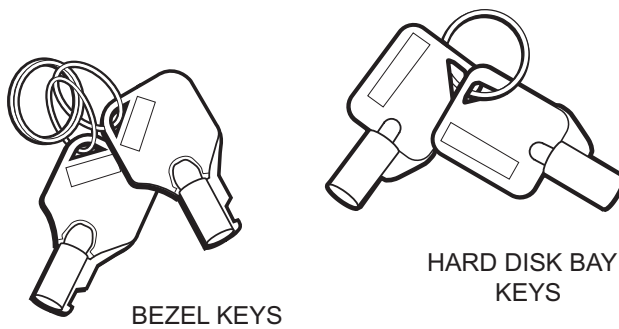
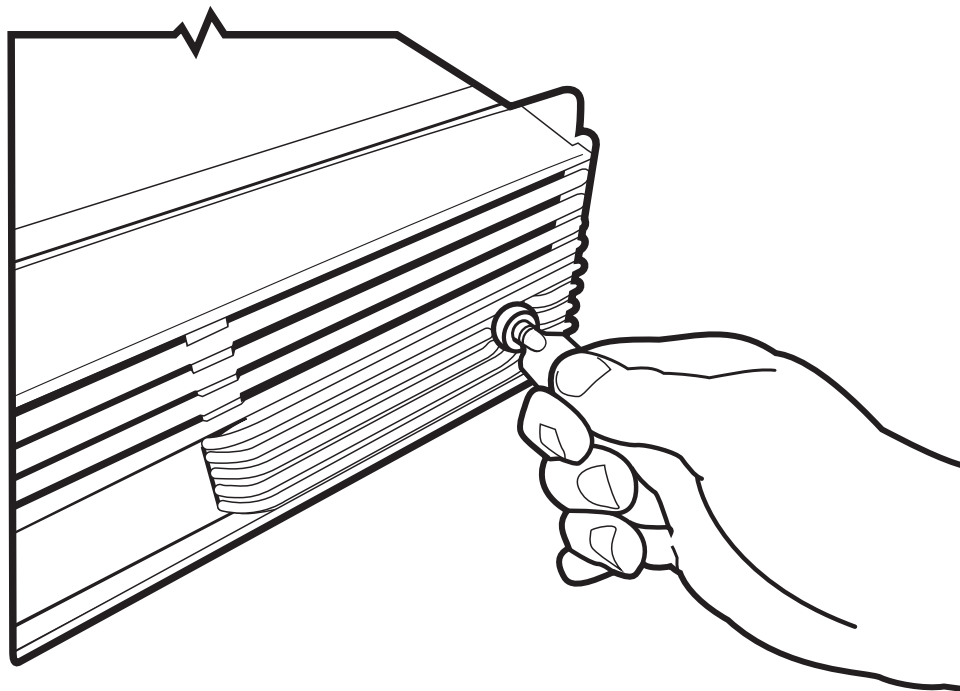
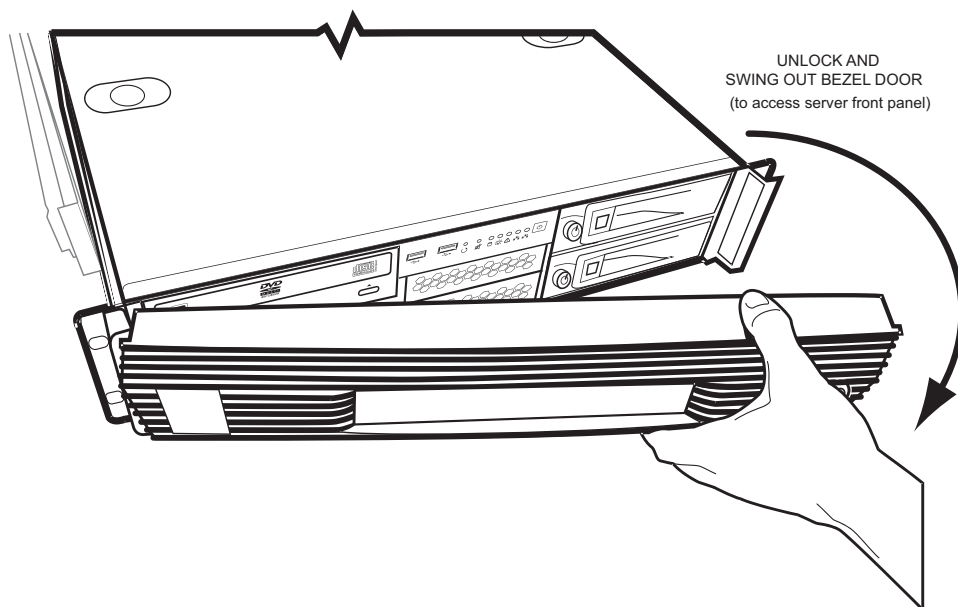

Figure 2.10 Bezel and Hard Disk Keys
Figure 2.12 Unlocking the Front Bezel of the 7800-CTRL
Figure 2.13 Opening the Front Bezel to Access the Hard Disks of the 7800-CTRL
1. Using the bezel key, unlock and remove the 7800-CTRL front bezel. See figure 2.10 on page 18, figure 2.12 on page 19, and figure 2.13 on page 19.